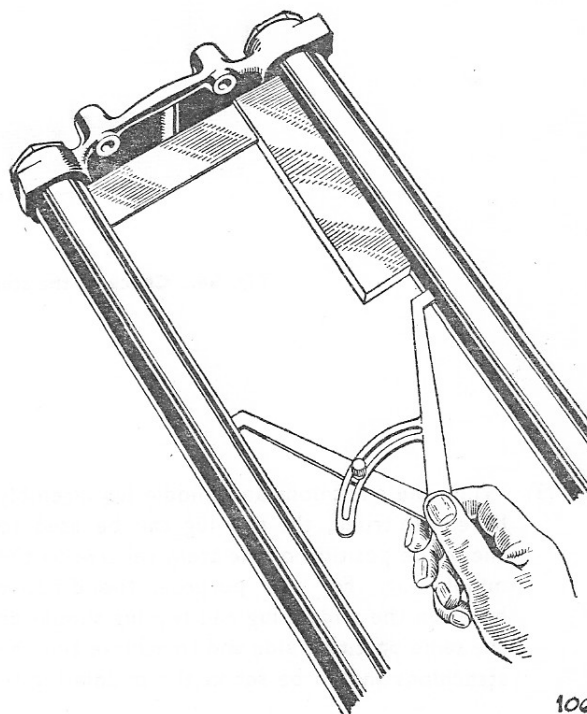

Fig. G3. Checking the top lug for alignment
- (1) Check the stanchions for truth by rolling them slowly on a flat checking table. A bent stanchion may be realigned if the bow does not exceed  $\frac{5}{32}$  in. maximum. To realign the stanchion, a hand press is required. Place the stanchion on two swage "V" blocks at either end and apply pressure to the raised portion of the stanchions. By means of alternately pressing in this way and checking the stanchion on a flat table the amount of bow can be reduced until it is finally removed.
- (2) Inspect the top lug by fitting both stanchions (if true) with the cap nuts tightened in position as shown in Fig. G3. Check that the stanchions are parallel to each other in both planes by laying the assembly on a checking table and taking caliper readings as shown. Using a set square, check that the stanchions are at right angles to the top lug.